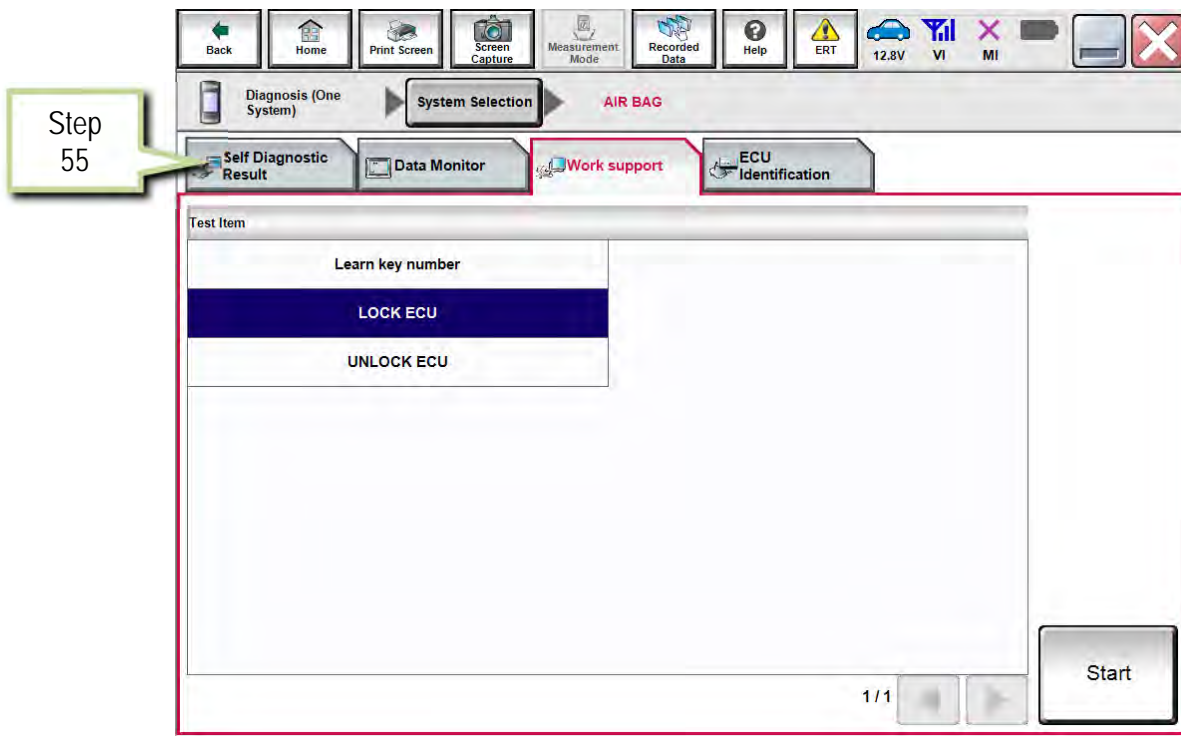

Figure 35
**NOTE:** If the screen in Figure 35 is not displayed, perform steps 39 and 40 to access the Self Diagnostic Result tab.